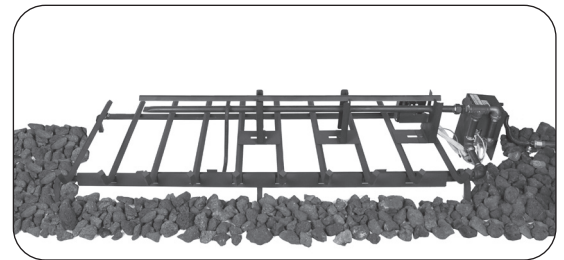

Fig. 13-2 Place lava coals
1. Spread the lava coals on the floor of the fireplace, around the front and sides of the burner system (see Fig. 13-2).